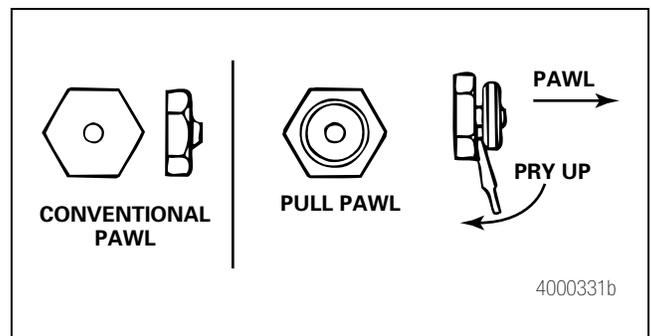

Figure 4.2
3. Disengage the pull pawl. Use a screwdriver or equivalent tool to pry the pull pawl at least 1/32-inch (0.8 mm) to disengage the teeth. Figure 4.2.
- **If the slack adjuster has a conventional pawl:** Remove the pawl. Figure 4.2.